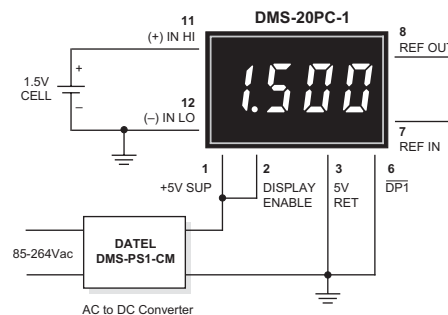

Figure 5. Floating Input Measurements
- 4. Floating Signal Source Measurements:** Floating signals can be measured using the circuits shown in Figures 5 and 6. Connecting pin 10 (ANALOG COMMON) or pin 3 (5V RETURN)